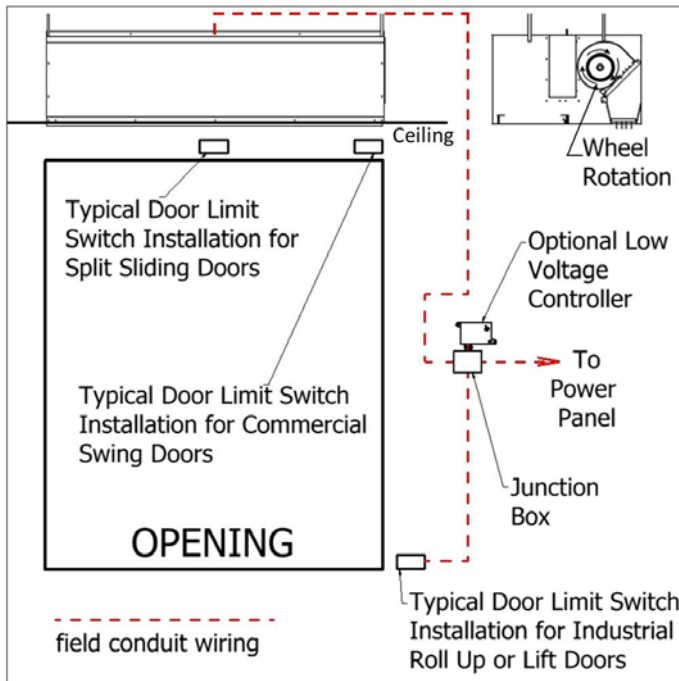

FIG. 3
2. The unit and any optional accessories must be wired with the proper voltage to the junction box per the wiring diagram. (FIG. 3, unheated products only)
- All 3 phase motors are bi-directional, which means they can rotate in either direction. Follow directional arrows on the blower wheel housings for proper rotation. If the motor is rotating incorrectly, switch two of the 3 phase power or motor leads and the motor will rotate the opposite direction. Make sure all motors are turning in the same and proper direction. (FIG. 3)